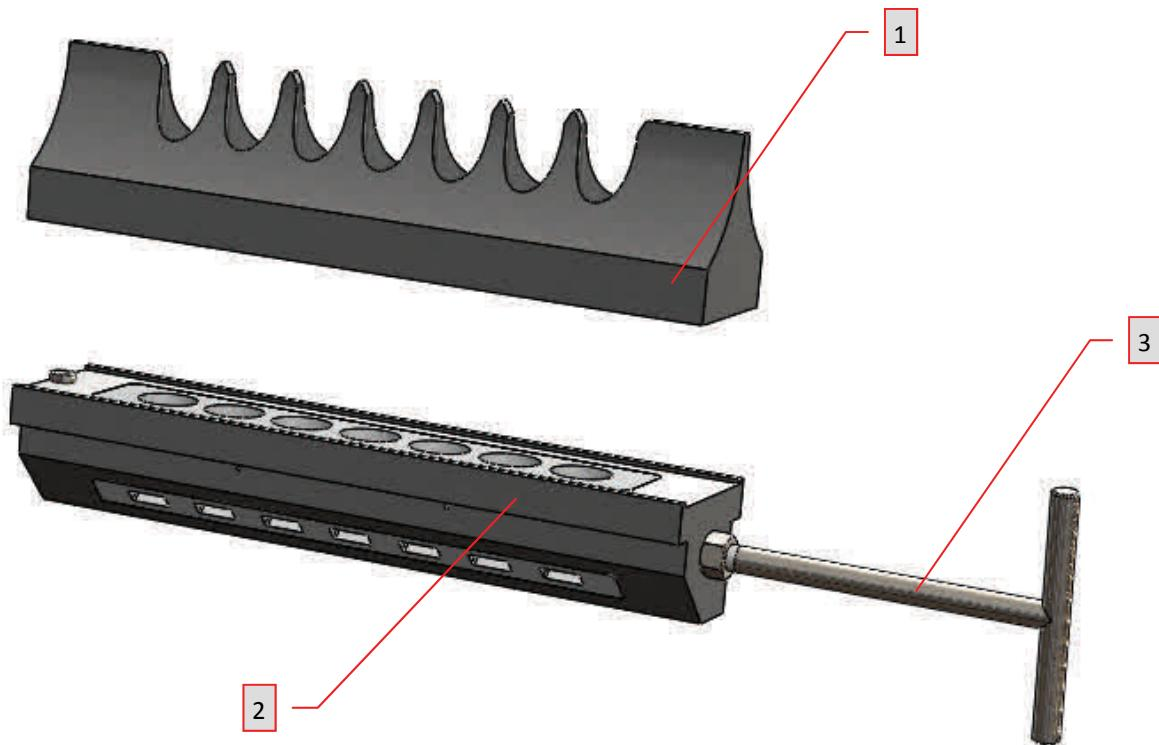

FIGURE 9—Filler Block and Die Shown Removed from Machine
1. **Filler Block and Die** – Close up view of the filler block and die below the feed rolls. See Figure 9 below for more detail.